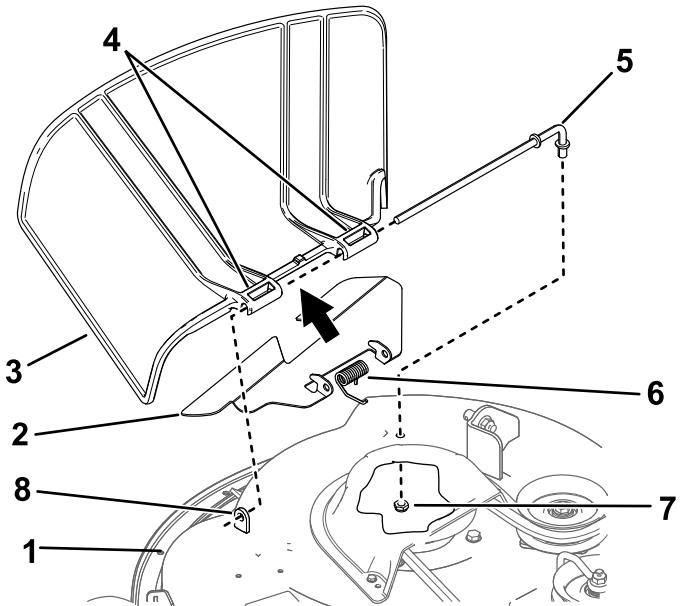

Figure 75
1. Remove the nut (3/8 inch) from the rod under the mower (Figure 75).
2. Slide the rod out of the short stand-off, spring, and grass pivot (Figure 75).
4. Install the new grass deflector (Figure 75).
7. Slide the rod through the second grass-deflector pivot (Figure 75).
9. Secure the rear end of the rod into the mower with a nut (3/8 inch) as shown in Figure 75.